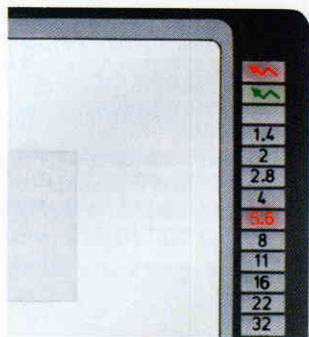

Fig. 42
*When the dedicated flash unit is ready for use a green flash symbol is illuminated in the upper right of the viewfinder (fig. 42). Should the flash output have been inadequate, this will also be indicated in the viewfinder which means that the flash unit had insufficient power in relation to the selected aperture. A wider aperture should be selected or the camera to subject distance reduced. (For further details please see instruction manual for dedicated flash system.)*